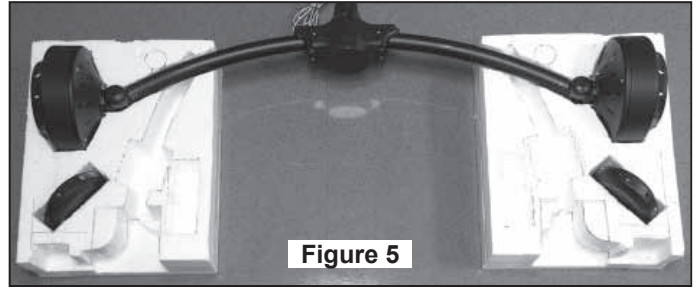

Figure 5
9. Using the $\frac{3}{8}$ " x 2" lag bolt and flat washer, attach safety cable to ceiling joist or wood structural member. The lag bolt will pass through the flat washer, safety cable loop, and into the building structure (Figure 5). You will first drill a $\frac{1}{4}$ " pilot hole into the building structure to prevent splitting or cracking.
NOTE: Ceiling support cable cannot be secured to junction box only, it must be directly secured to ceiling joist or structural member using the $\frac{3}{8}$ " x 2" lag bolt and flat washer. (Figure 5)
9. Hang the support bar / downrod assembly (assembled earlier) into the the hanger bracket. Make sure the groove of the hanger ball is positioned on the tab of the hanger bracket. (Figure 5)
10. Carefully **ROTATE** the Hanger Bracket and support bar / downrod assembly together to orientate the fan in the desired position. (Figure 5)